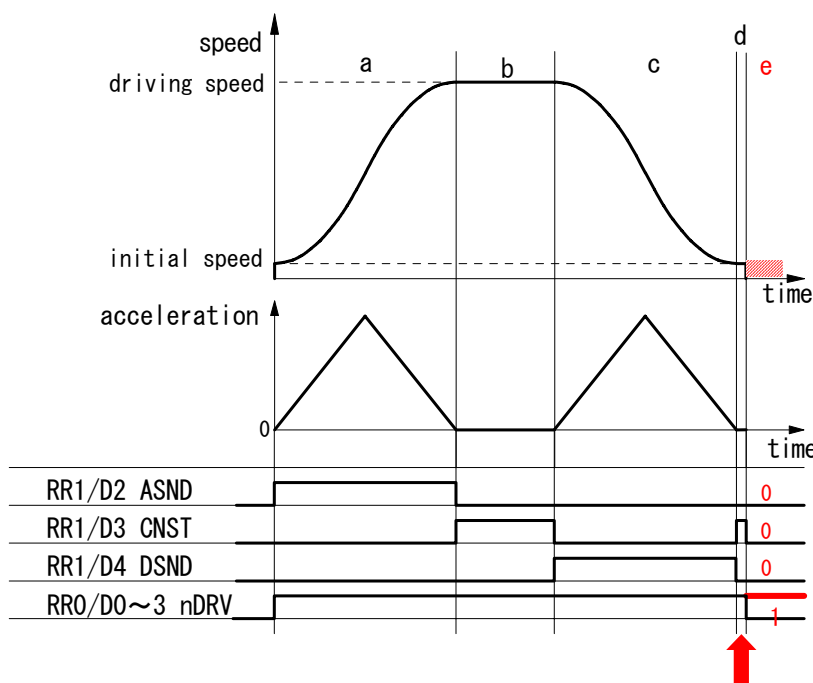

Figure 3. Status of deceleration shown by RR1 register
Deceleration status of accelerating(ASND), constant speed driving(CNST) and decelerating(DSND) can be read out according to RR1 register of IC. The status is shown as Figure 3. as below ;
The timing when the trouble may possibly happen is shown as “d” on Figure 3. At this time, status of deceleration is constant speed driving(CNST=1). Besides in case the trouble such as outputting pulse continuously happens, all of ASND, CNST and DSND will become 0 even though it's driving(RR0/nDRV=1).
Basically once deceleration starts, it isn't necessary to execute deceleration stop command. Therefore deceleration stop command should be prohibit. See nRR1/D4(DSND) normally to know it's decelerating or not. Timing when the trouble happens is in “d” as shown on Figure 3 if deceleration stop command is executed. In “d” DSND status bit is 0 and CNST status bit is 1. Therefore the following two(2) solutions will be proposed.
(1) When interruption from IC can be used
Terms when deceleration stop command should be executed in accelerating and constant speed driving such as “a” and “b” on Figure 3. Status of deceleration for both “d” (timing when the trouble happens) and “b” (constant speed driving) is same as constant speed driving as shown on Figure 3. But there is difference of driving speed between two. Driving speed in “b” is near that of setting driving speed. Driving speed in “d” is near that of initial speed. Therefore before driving starts, prepare judgmental speed which is middle one between initial speed and setting speed ($(\text{Driving speed} - \text{initial speed})/2 + \text{initial speed}$). When execute deceleration stop command during driving, make sure status is accelerating(ASND=1) or constant speed driving(CNST=1) and driving speed is same or faster than judgmental speed.
Constant speed area (“b” area) on Figure 3 is set as occurrence factor of interruption. But this interruption is also happened when there is “d” area just before driving stops on Figure 3 such as when driving speed reaches initial speed or when acceleration becomes 0(zero). There should occur “d” area definitely if the trouble is happened just before driving stops, driving speed hasn't reached initial speed yet, acceleration becomes 0 and decelerating stop requirement is executed. The measure is to judge if the trouble happens or not in the timing of interruption when “d” area ends.
- ① Check if driving goes out constant speed area or not. If RR3/D5(C-END) bit of driving axis is 0, there are other interruption factors. Execute those interruption processing.
- ② Check if driving goes into decelerating area or not. If it's RR1/D4(DSND)=1, make it finished as it goes because driving goes into "c" area from "b" area on Figure 3. If it's RR1/D4(DSND)=0, move it to ③ processing because driving has gone out "d" area.
- ③ Check if driving has finished or not. If it's finished, make it finished as it goes because driving has finished normally. But if it's not finished yet, surely trouble have happened because status is shown as it's still driving even though driving has gone out "d" area.
- ④ Check if hard limit is ON or OFF. Since RR1/D12 bit becomes 1 if + limit is ON and RR1/D13 bit becomes 1 if - limit is ON, if it's D12=1 or D13=1, judge forward limit is ON.
- ⑤ If trouble has happened, it becomes ASND=CNST=DSND=0. Check them all.
- ⑥ Execute sudden stop command(27h).
(2) When interruption can't be used
In “d” area on Figure 3, if forward limit is active, the trouble will happen, more exactly saying, it will seldom happen. There isn't any method to avoid it before it happens. So immediately after the trouble happens, take means to stop driving. If the trouble happens (“e” area on Figure 3), status keeps driving(RR0/nDRV=1), status of acceleration/deceleration is 0 in ASND, CNST, DSND. This is completely abnormal state. So the example of measure is shown as follows;